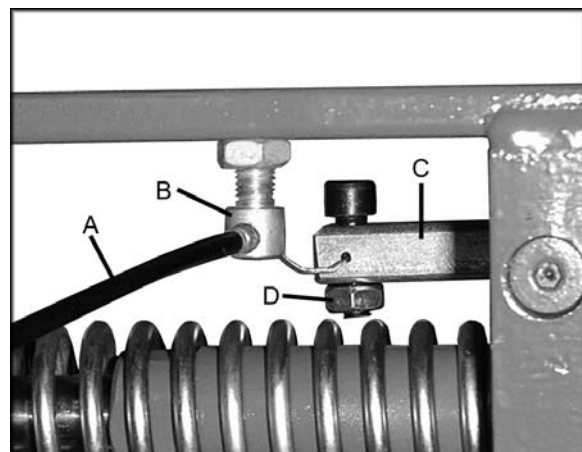

Figure 3
4. Route the cable (A, Figure 3) into the cable nut (B, Figure 3). Run the cable through the lowering mechanism (C, Figure 3) and pull the cable tight. Tighten the hex nut (D, Figure 3) using a 14mm wrench.